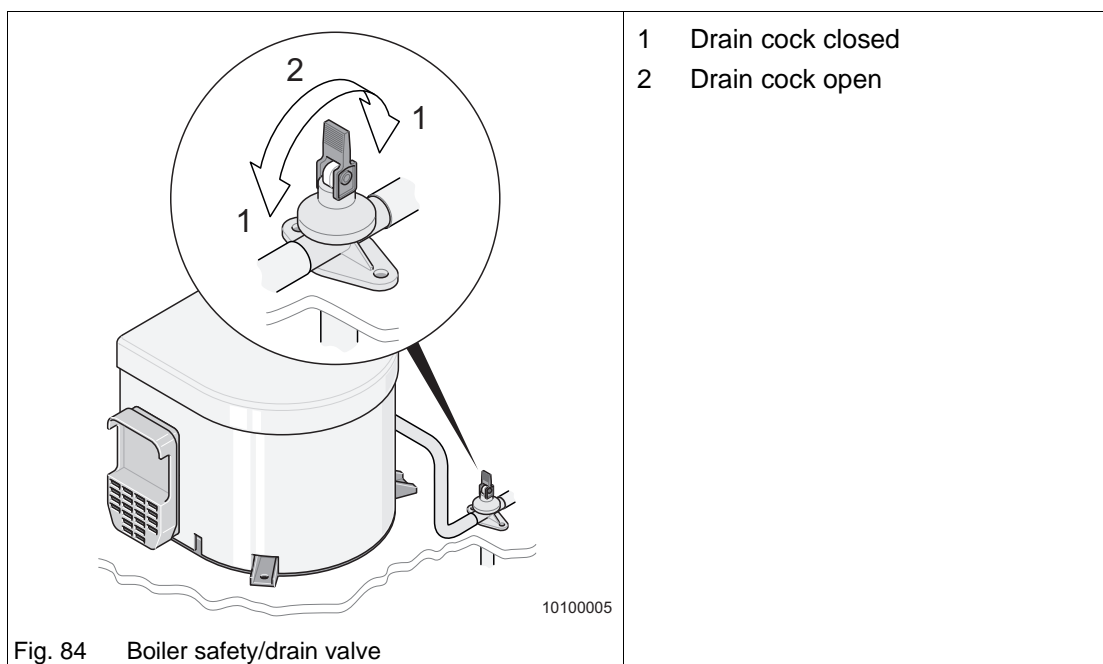

Fig. 84 Boiler safety/drain valve
- ➔ Close the safety/drain valve (Fig. 84/2). To do this, turn the rocker arm horizontal.
- Open the safety/drain valve (Fig. 84/2). To do this, set the rocker arm vertical.